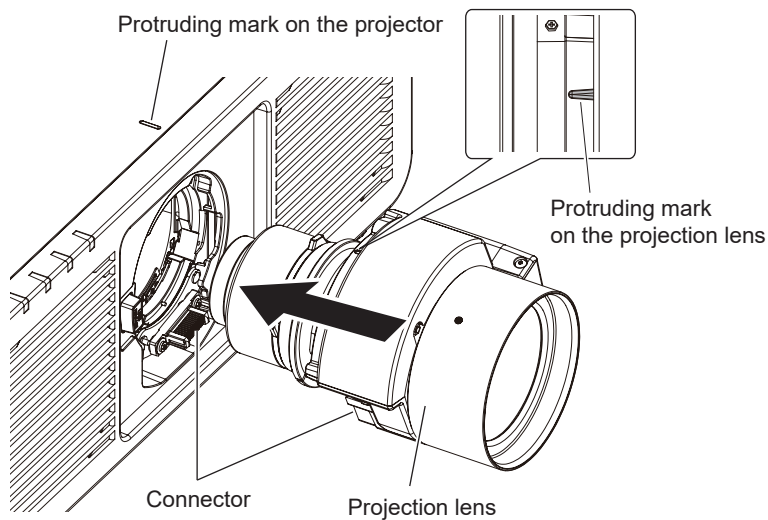

Fig. 2
2) Align the protruding mark on the projection lens with the protruding mark of the projector, and insert the projection lens all the way in. (Fig. 2)